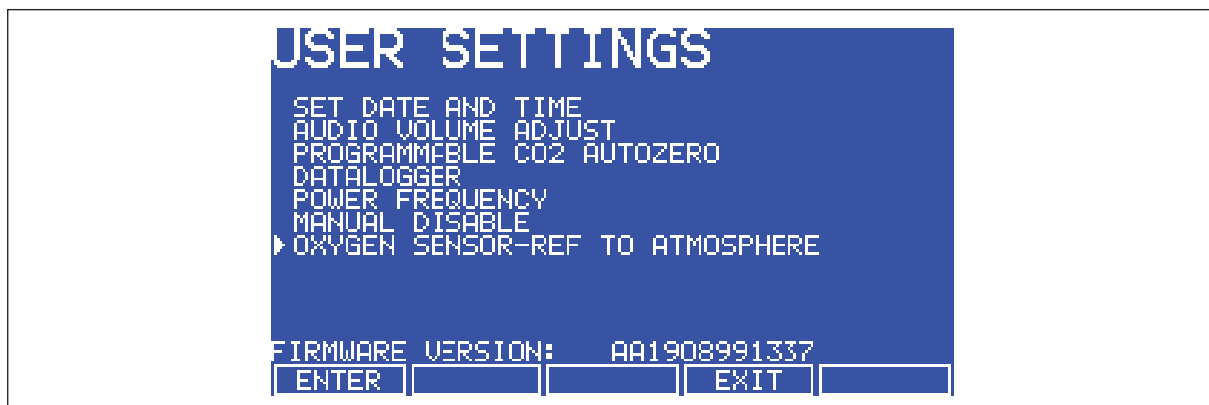

Fig. 12-2: Selecting OXYGEN SENSOR-REF TO ATMOSPHERE
4. After the incubator has been humidified and left overnight to stabilize, select the **USER** menu; then, using the ▲ or ▼ direction key, select **OXYGEN SENSOR-REF TO ATMOSPHERE** (see Fig. 12-2 on p. 73) and follow the onscreen instructions to automatically calibrate the oxygen sensor to atmospheric oxygen levels. The oxygen reading is automatically adjusted to 19.7 %, which is the true reading taking into account the relative humidity level.